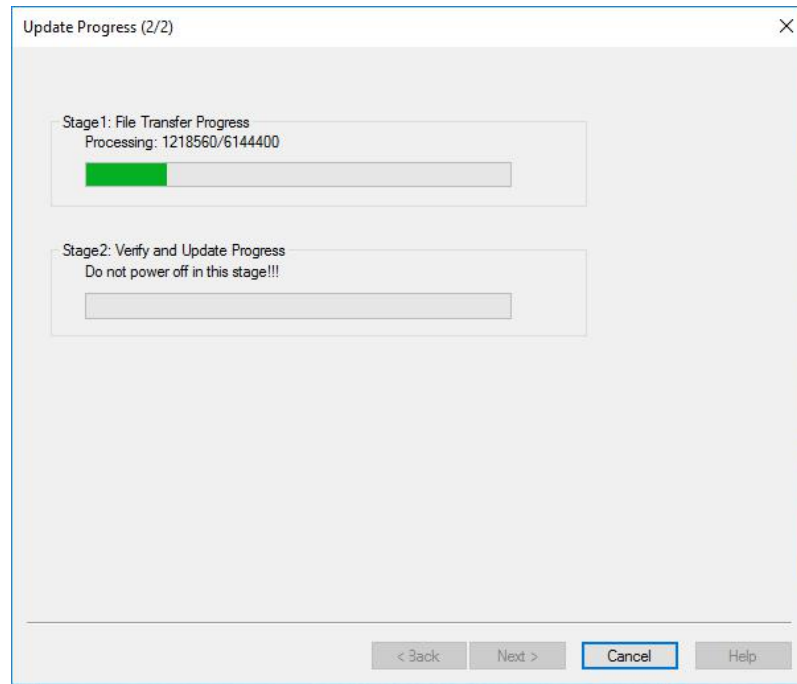

Figure 3.12 Update Progress of the firmware update
3. The firmware is updating in progress as shown in Figure 3.12 below. Do not power off the receiver during the verification and update progress.